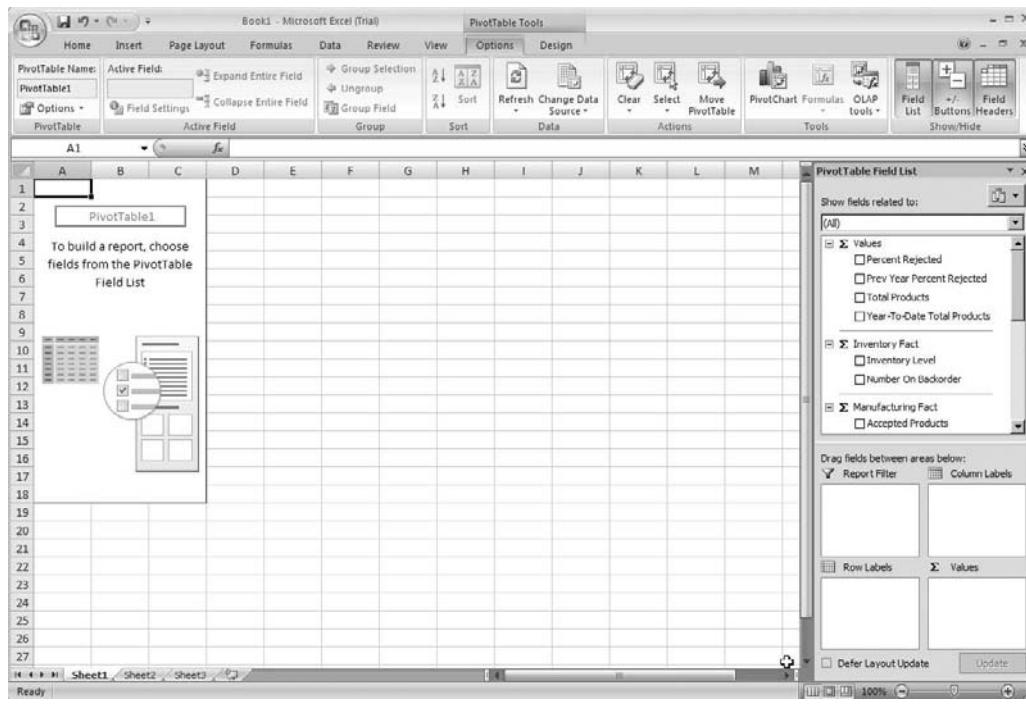

Figure 19-7 The empty pivot table layout in the Excel spreadsheet
16. Click OK to exit the Create PivotTable dialog box. An empty pivot table is created, as shown in Figure 19-7.